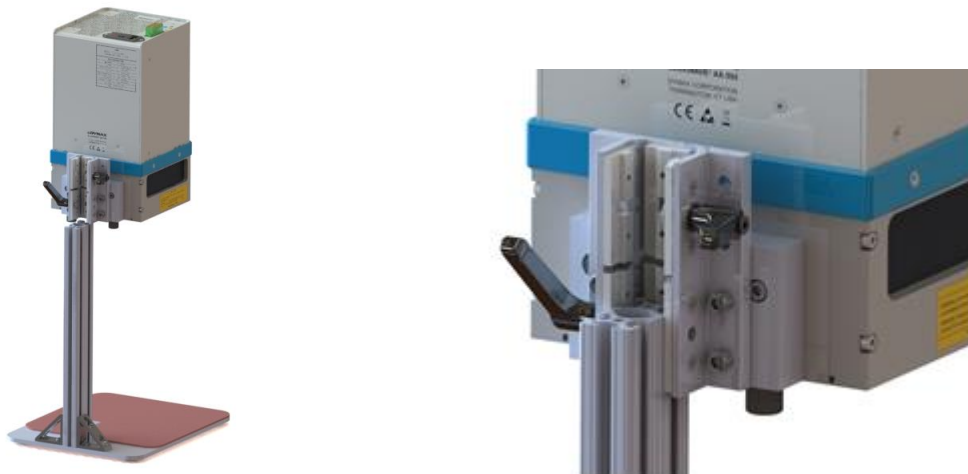

Figure 3. Slide Carriage into Stand
4. Slide the carriage onto the stand upright, being sure to align bearing pads and t-nut into slot (Figure 3).